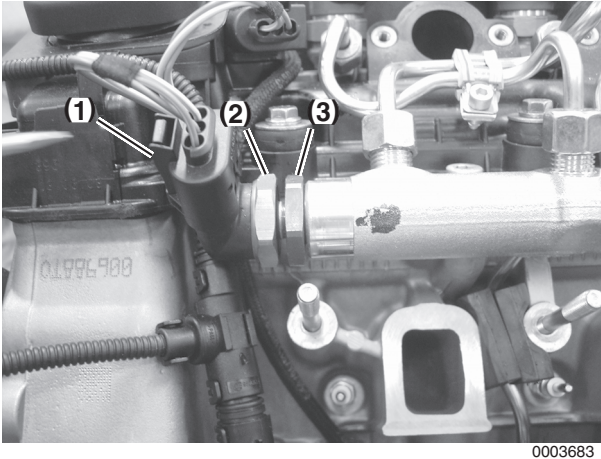

Figure 12-32
3. Disconnect electrical connector from sensor (**Figure 12-32, (1)**).
4. Hold sensor hex (**Figure 12-32, (2)**) with wrench and loosen retaining nut (**Figure 12-32, (3)**).